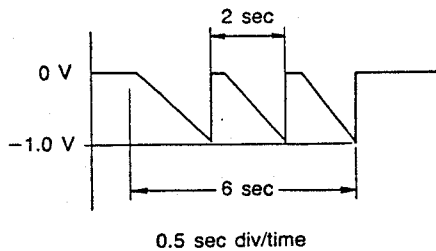

Fig. 1
- 4) During the first 6 seconds of operation confirm the waveform is similar to that shown in Fig. 1.